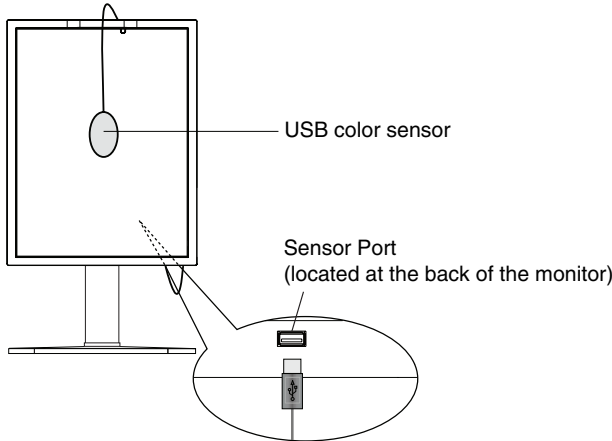
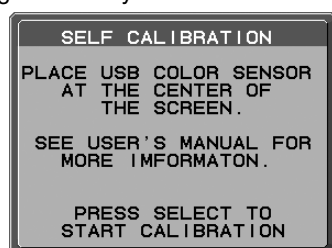

Figure S.1
Figure S.3
1. To show the CALIBRATION menu, plug-in the USB color sensor to the sensor port (**Figure S.1**) or select STAND ALONE CALIBRATION in the advanced menu (page 22).
4. The procedure will ask for the USB color sensor to be placed on the center of the display panel (**Figure S.3**). Tilt the display panel approximately 5° backward and place the USB color sensor in the center of the display panel (**Figure S.1**).